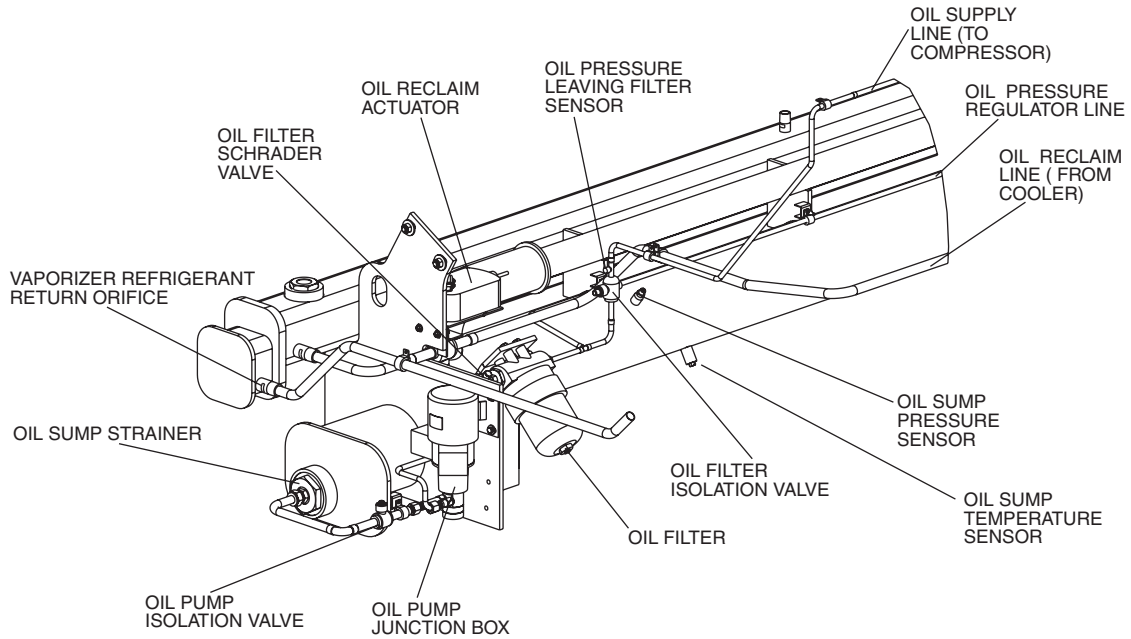

Fig. 43 — Oil Sump Strainer and Filter
- Close both oil filter isolation valves. See Fig. 43.
Oil Heater — Inspect the oil heater for carbon build-up on the heating element if an adequate oil sump temperature cannot be maintained when the chiller is shut down. It may be necessary to temporarily install the heater element terminal cover to provide additional leverage while threading the oil heater into the sump. The sump oil heater elements must be positioned vertically to allow proper heat convection. See Fig. 43 and 44. The heater element must be installed with the word “TOP” on the threaded fitting facing upward.
Oil Strainers — The oil reclaim system has two strainers. One is installed in the VFD refrigerant cooling line between the cooler and condenser. The second strainer is located in the oil sump strainer housing (see Fig. 43). The oil sump strainer must be replaced or inspected with the refrigerant charge isolated in the condenser. Inspect the oil sump strainer for obstructions or damage every time the oil is changed. The strainer threads into the oil sump strainer housing. Install a new strainer o-ring if the entire strainer does not require replacement.
Vaporizer Refrigerant Return Line Orifice — There is a metering orifice where the refrigerant return line attaches to the vaporizer (see Fig. 43). This orifice can only be inspected by cutting the vaporizer refrigerant return line near the vaporizer. This orifice should be inspected if hot condenser gas flow through the vaporizer appears to be obstructed.